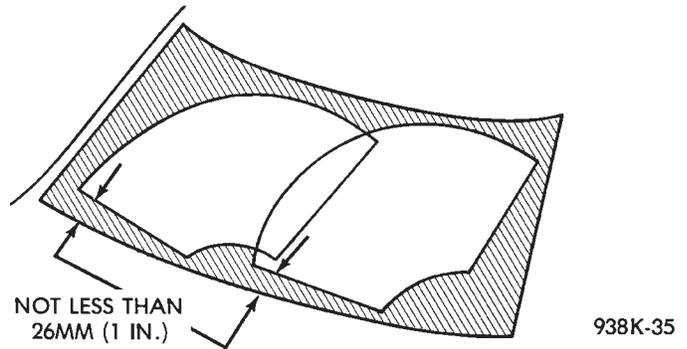

Fig. 8 Windshield Wiper Arm Adjustment
- (1) Cycle the wiper motor into the PARK position.
- (2) Check the tips of the blades in blackout area. From the bottom edge of the windshield to the blade should be no closer than 25 mm (1 inch) (Fig. 8).
- (3) Operate the wipers if the requirements are not met, check linkage and pivot assembly for worn parts.